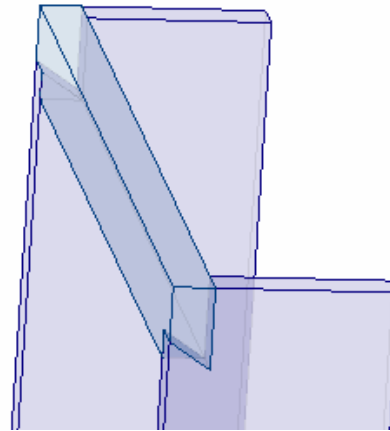

Figure 22. Top Dovetail Piece installed.
45. Figure 22 shows the top dovetail cross piece installed.